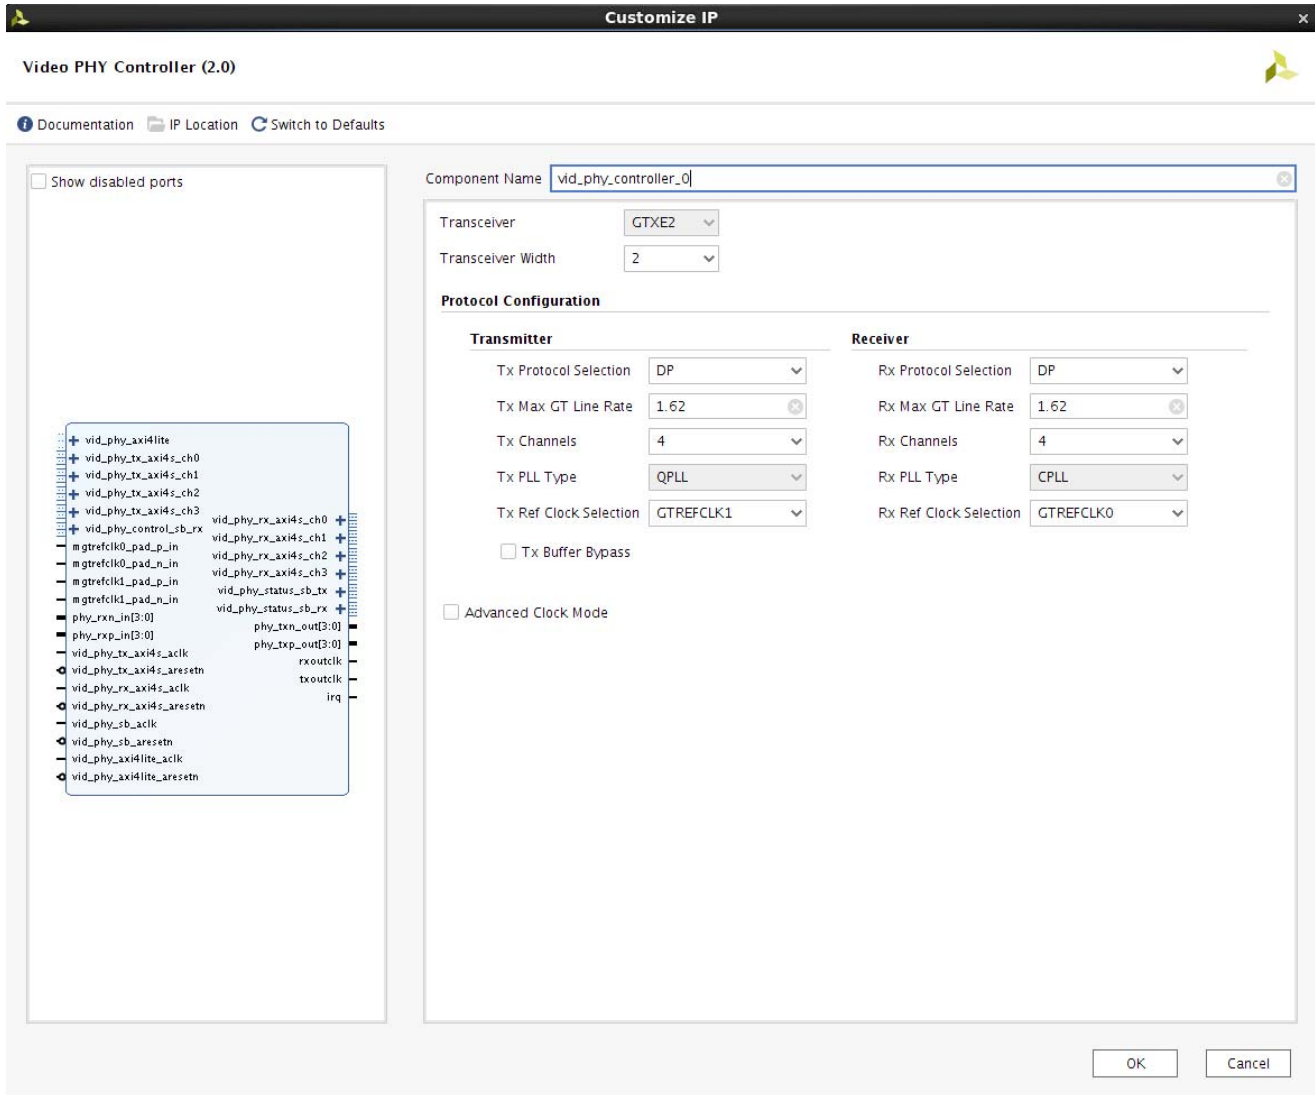
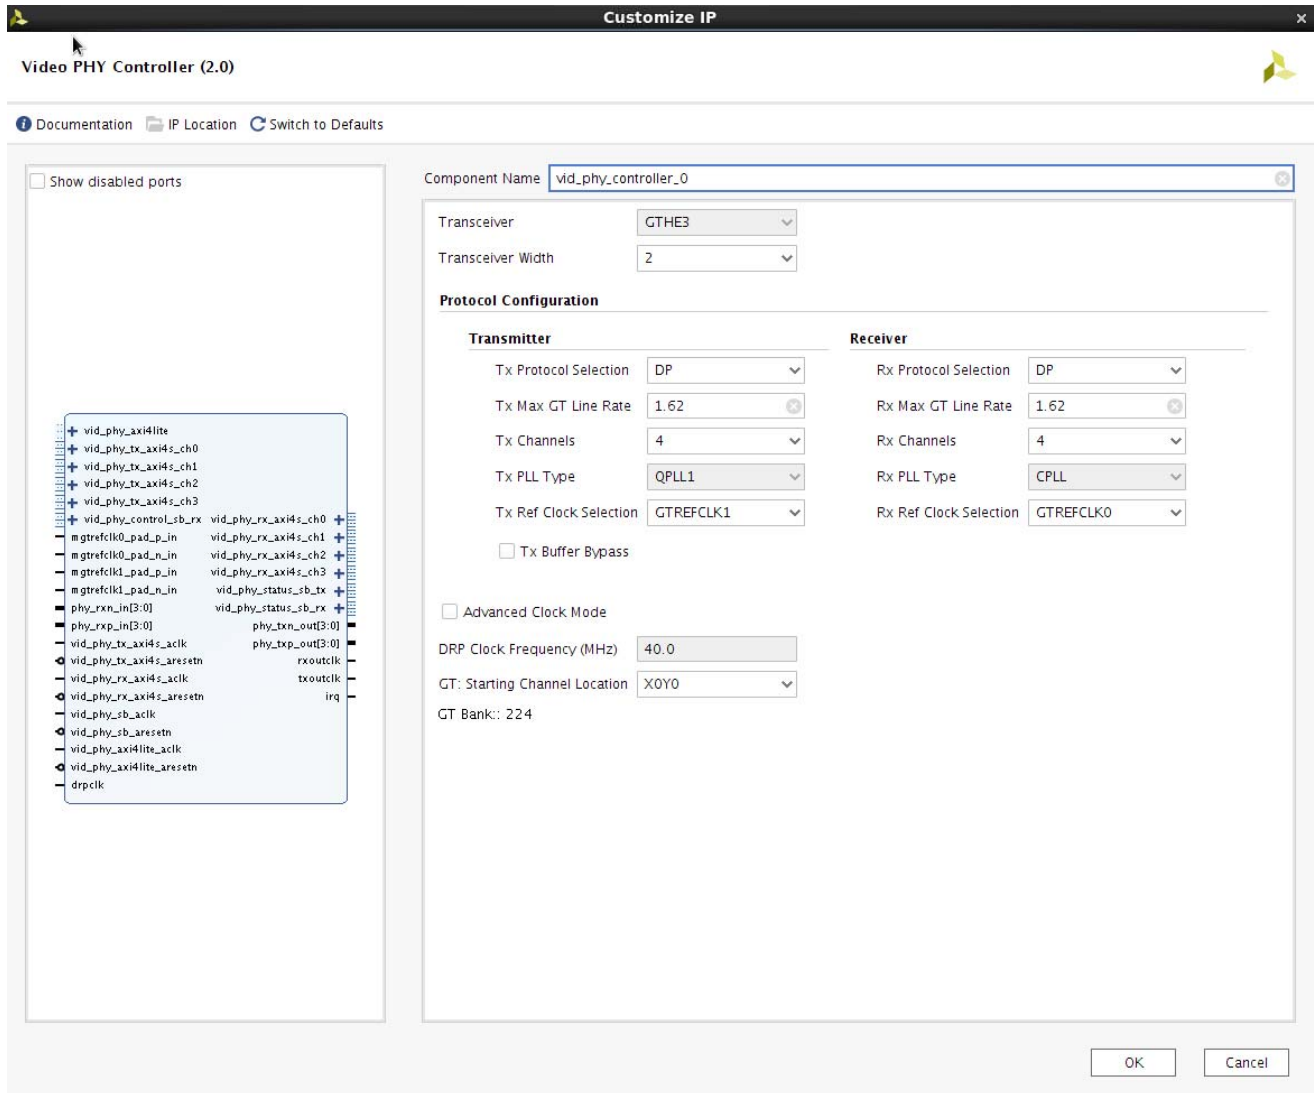

Figure 4-1: Vivado IDE – DisplayPort Protocol with GTPE2, GTXE2, and GTHE2 Transceivers
Figure 4-3: Vivado IDE – DisplayPort Protocol with GTHE3 Transceiver
**Transceiver Width:** Specifies the width of the transceiver that is used in this core (Option is displayed when DisplayPort protocol is selected. See Figure 4-1 or Figure 4-3).